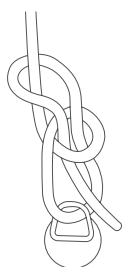

Fig 68 -
4. Finally pass the end back through the small loop (Fig 68).